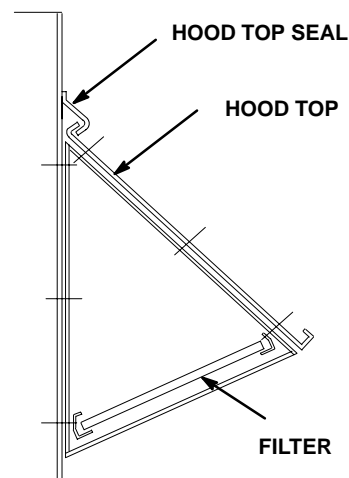

FIGURE 30
LAOAD(M)30/36 consists of a set of dampers which may be manually or motor (M) operated to allow up to 25 percent outside air into the system at all times (see figure 30). Either air damper can be installed in LGA/ LCA units. Washable filter supplied with the outdoor air dampers can be cleaned with water and a mild detergent. It should be sprayed with Filter Handicoater when dry prior to reinstallation. Filter Handicoater is R.P. Products coating no. 418 and is available as Lennox Part No. P-8-5069.